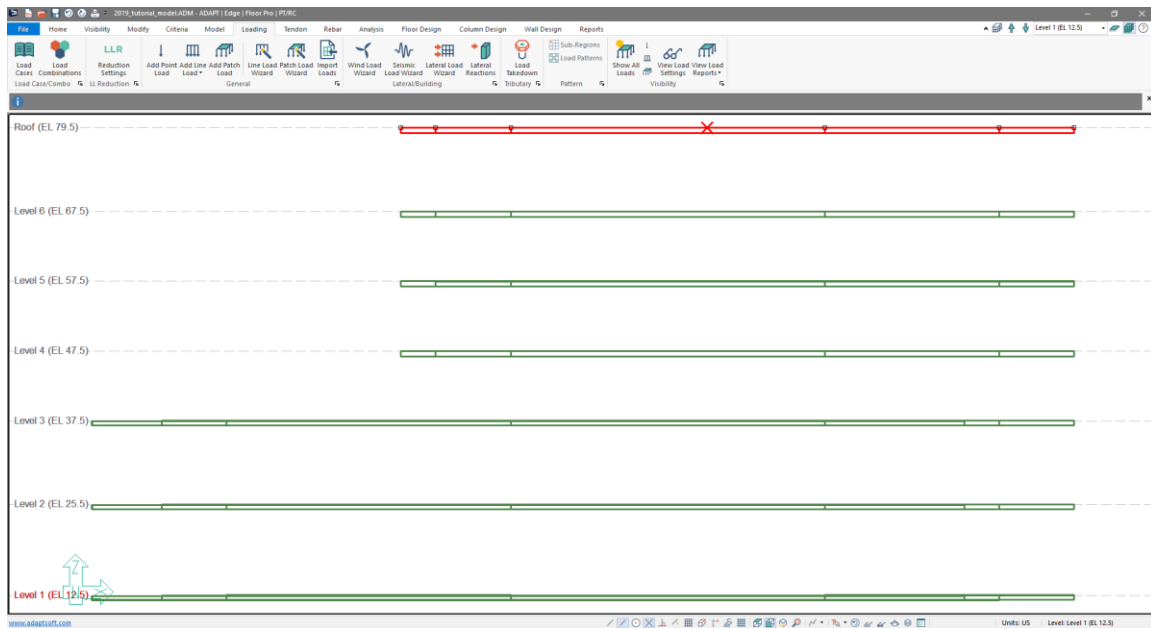

Figure 7-19
- Drag and select the Roof level slab. Once the slab is selected it should be highlighted in a red color as shown in **FIGURE 7-19**.